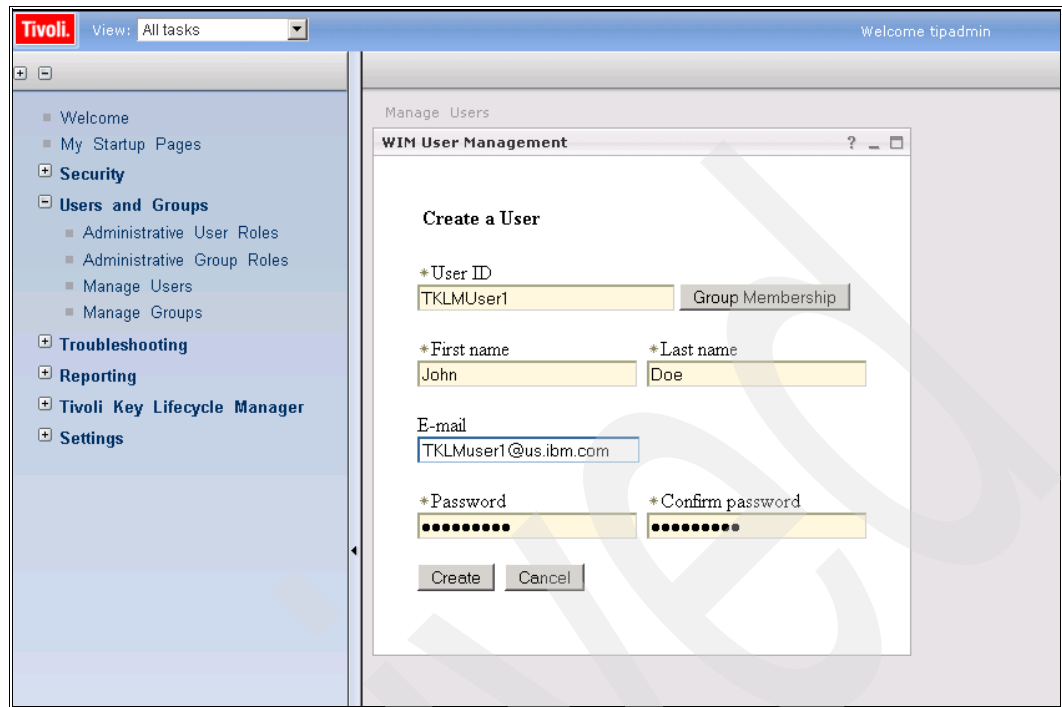

Figure 9-5 Create a user
5. Enter the pertinent information in the **Create a User** panel (Figure 9-5) and click **Create**.